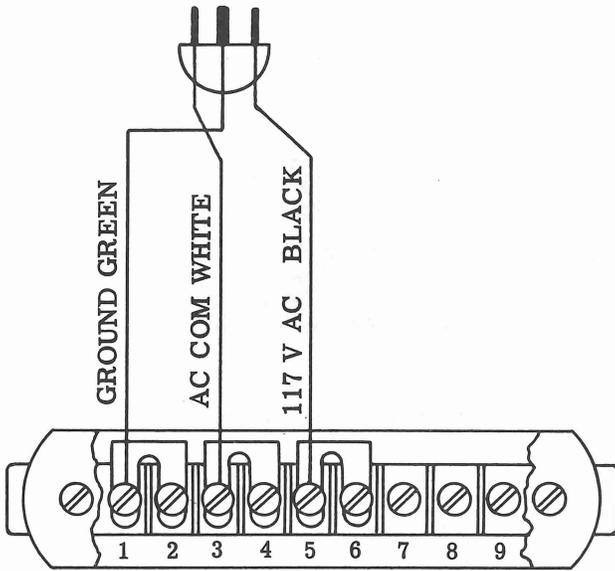

Figure 14 - AC Input Power Terminal Block, TB2901
7.04 The ac power cord is connected to the terminal block at the lower edge of the cabinet, just inside the front door. Using the power cord supplied or other suitable wiring, connect ground (green) to terminal block TB2901, terminal 1, ac common (white) to terminal 3, and 117 volt ac lead (black) to terminal 5. Refer to Figure 14. Replace the terminal board insulating cover after making the connections. Do not apply power to the cabinet until the ground bus and system connections have been completed.